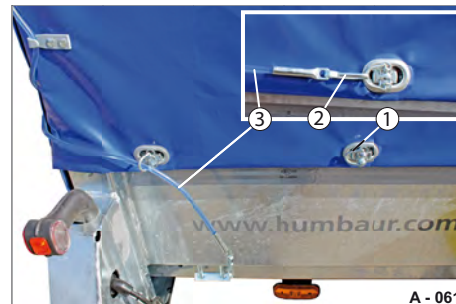

Fig. 66 Unlocking curtain section
- ▶ Release the karabiner hook (Fig. 66/2) from the cramp (Fig. 66/1).
- ▶ Pull the tensioning rope (Fig. 66/3) out of the eyes.